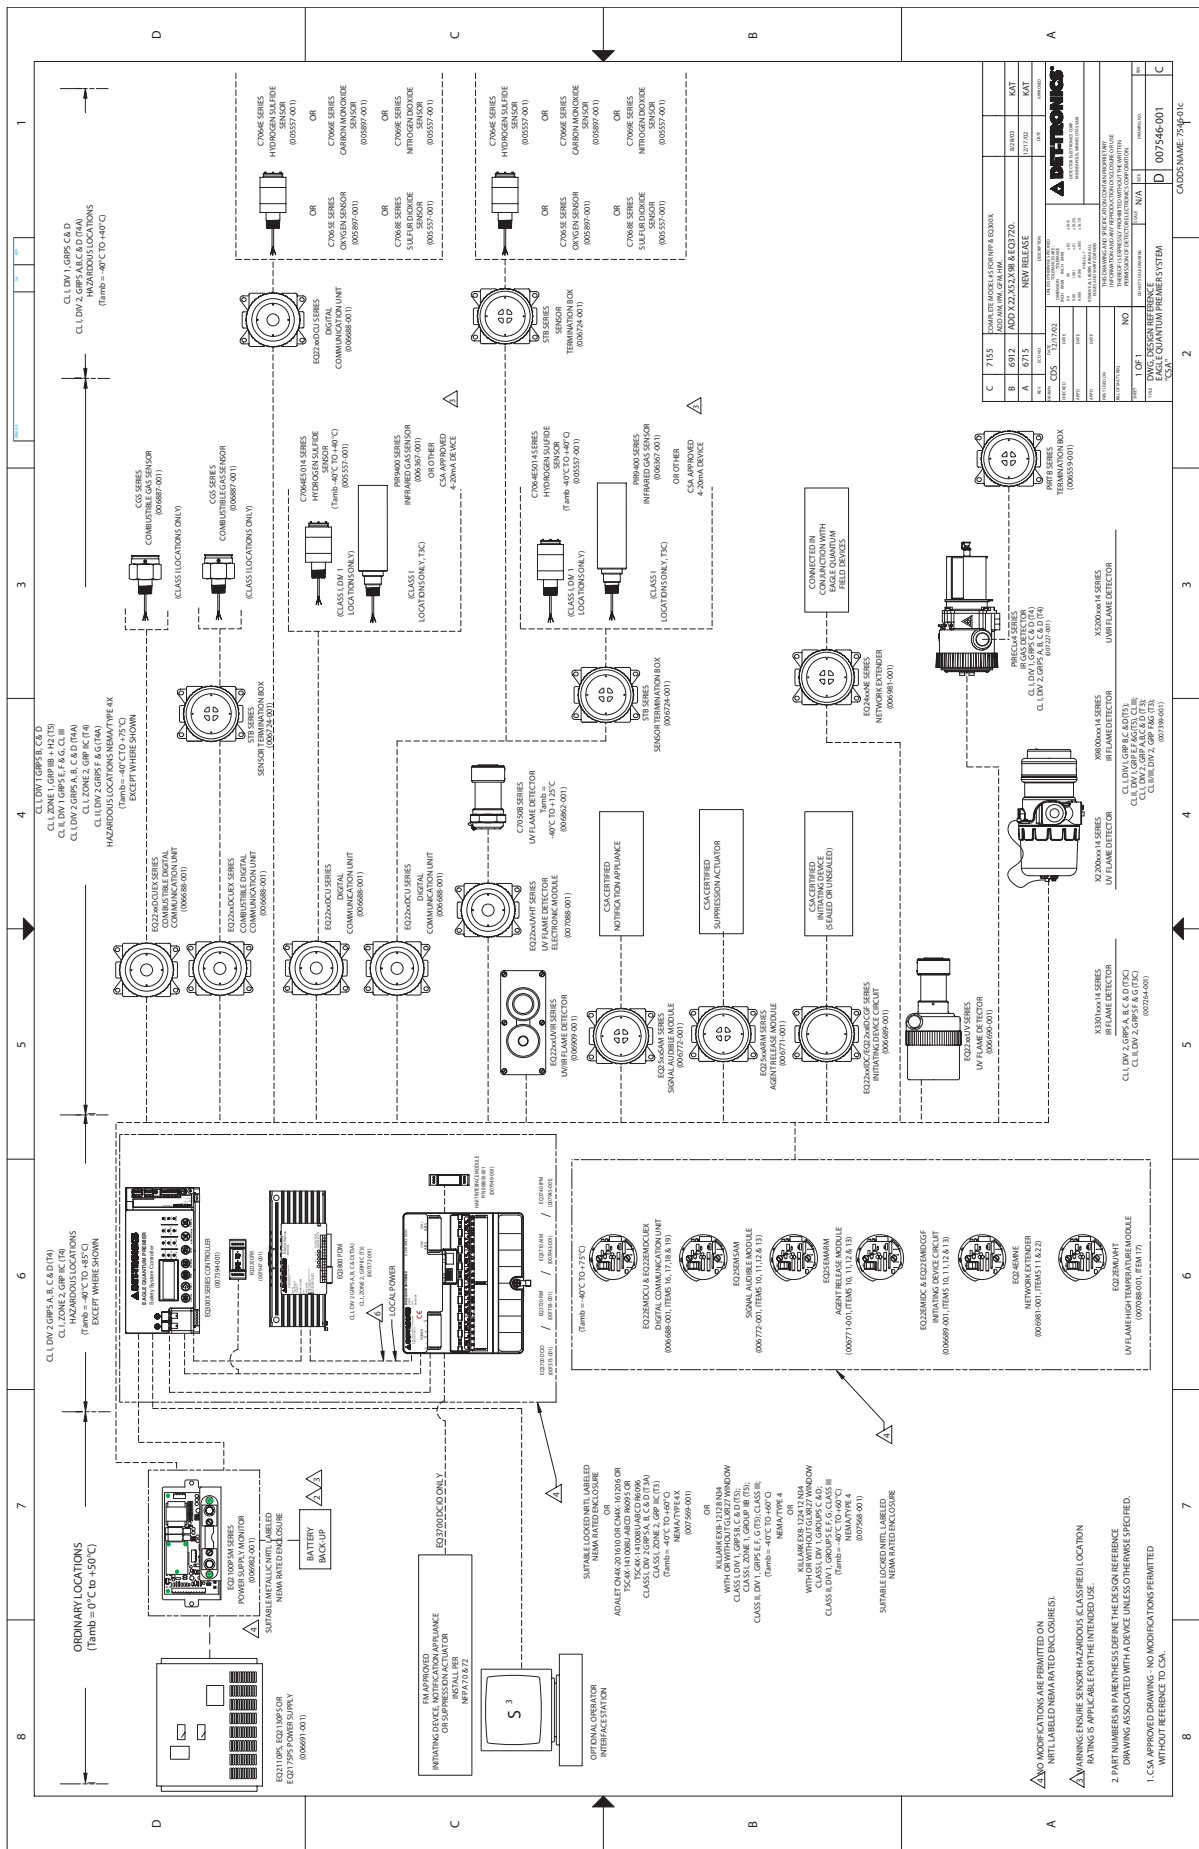

Figure B-1 (Drawing 007546-001)
- Refer to Figure B-1 for System Classification details.